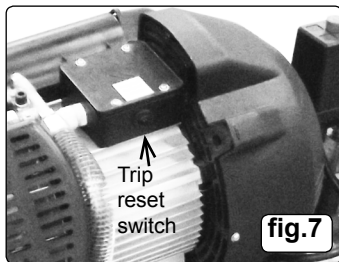

fig.7
- 4.3.7. The compressor is fitted with a reset trip, located in the connection box on top of the motor. The reset button is on the side of the box (fig.7). Should the trip activate, leave for 1 minute before pressing the button to reset. For possible causes of trip activation and remedies, see section 6 Troubleshooting.